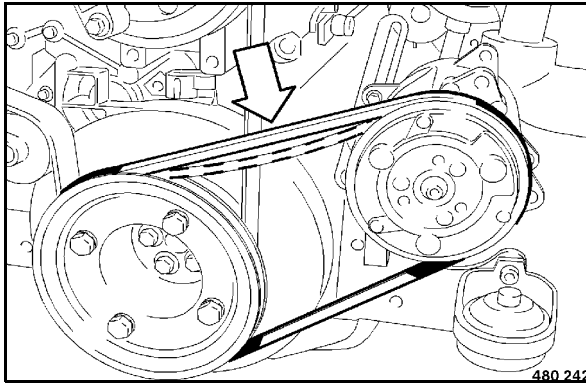

Fig. 134
- Inspect the entire circumference of the V-belt (Fig. 134) visually for damage and cracks. Replace damaged or cracked V-belts.